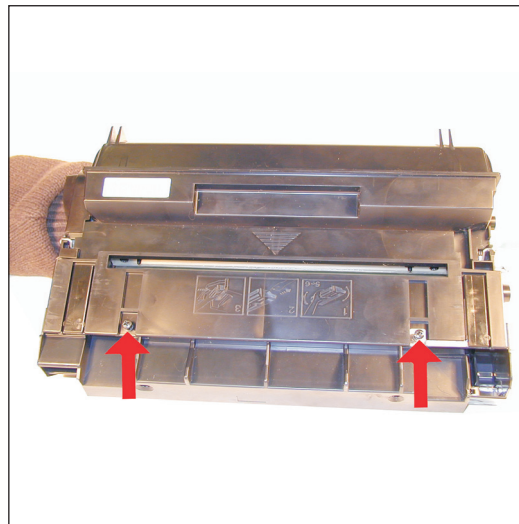

Figure 41
34) Install the two screws into the top of the hopper. See Figure 41